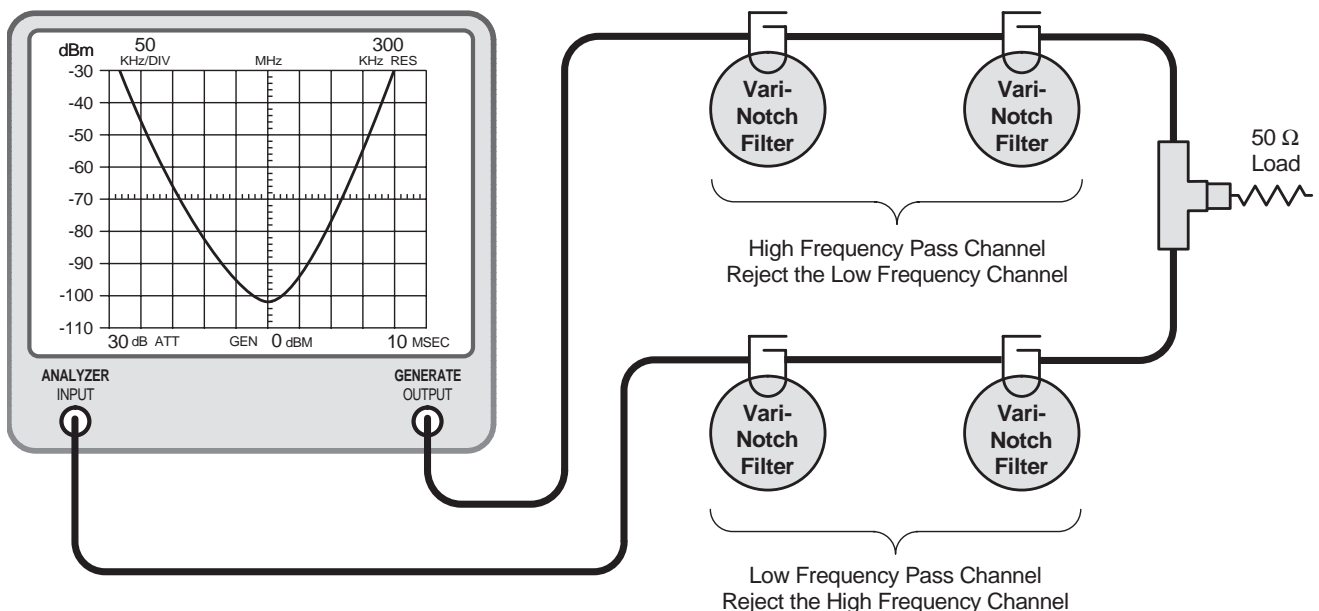

Figure 7: Equipment setup for fine tuning the rejection notch of each channel.
14. Terminate the antenna connector with a 50 ohm load. Connect the output of the tracking generator to the equipment port of one of the duplexer channels and the spectrum analyzer input to the equipment port of the remaining channel as shown in figure 7.